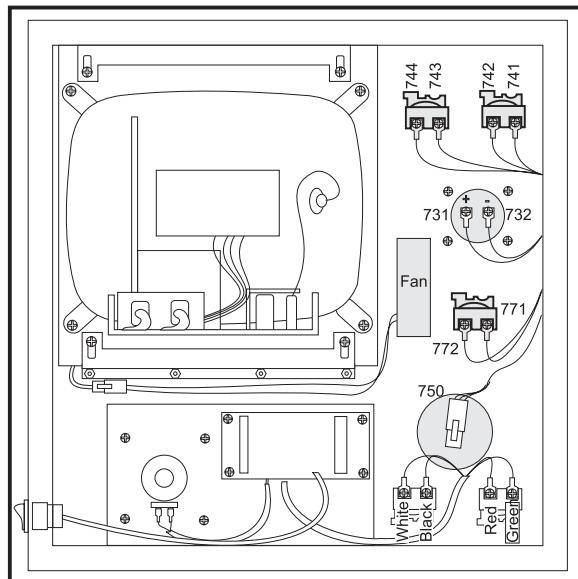

Figure 4.5-1. Interior of control panel (rear).
7. Replace by sliding the new assembly onto the eight bolts (four each on top and bottom). Starting with the bottom right, place the washers and hex nuts on the bolts to hold in place. Refer to Fig. 4.5-1 for the order of replacement. Once all washers have been attached and nuts have been hand-tightened, tighten down completely with the socket.
3. Disconnect all leads to the switch's connectors. Ensure all leads are properly marked for reconnecting later. Refer to Fig. 4.5-1 for proper locations.